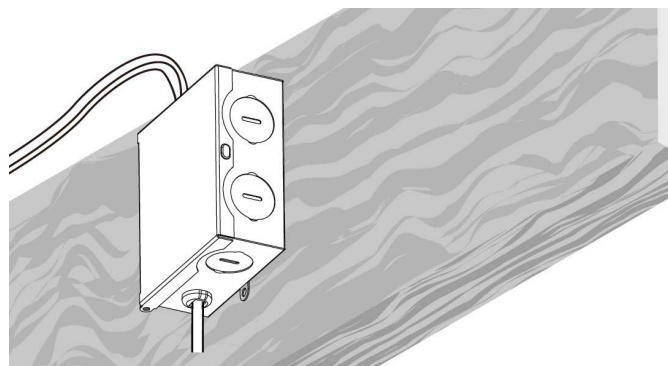

Fig.2
5. Insert hardwire box through the mounting hole (see Fig.2).